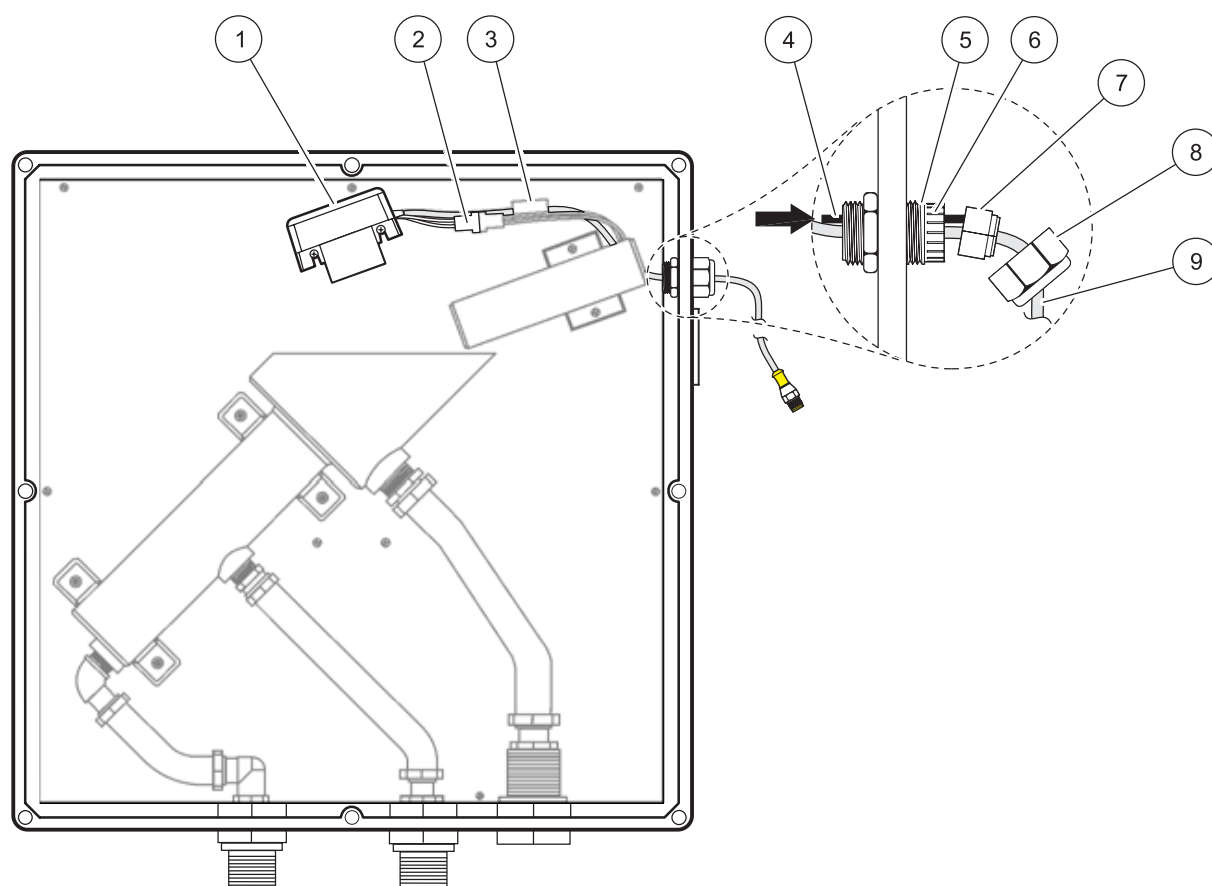

Figure 19 Detector assembly replacement
The detector assembly, listed as a replacement item in section 8.1 on page 49, is a sealed unit that is replaced entirely (Figure 19).
3. Disconnect the detector cable from the controller. Unscrew the nut (Figure 19, item 8) and remove it from the disconnected detector cable.
5. Pull the detector cable through the strain relief. Open the cable clamps (Figure 19, item 3) and remove the cable.
6. Remove the two screws securing the detector assembly to the wall of the SS7 sc enclosure. Remove the complete detector assembly (Figure 19, item 1).
8. Thread the detector cable through the strain relief. Replace the split grommet (note the orientation in Figure 19) onto the detector cable. At the clamping fingers, rotate the grommet counter-clockwise while pushing the grommet back into place in the strain relief.